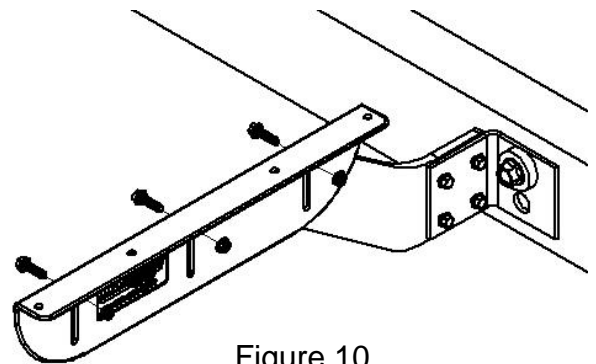

Figure 10
- a. In these cases use the plastic angle (PB5071) to connect the fender to the center bracket assembly (Figure 10).